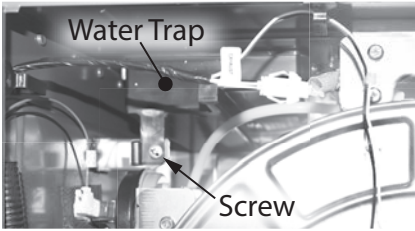

Figure 168 - Water trap location
- 4** Locate the air intake water trap on upper left side of the water heater. See Figure 168.